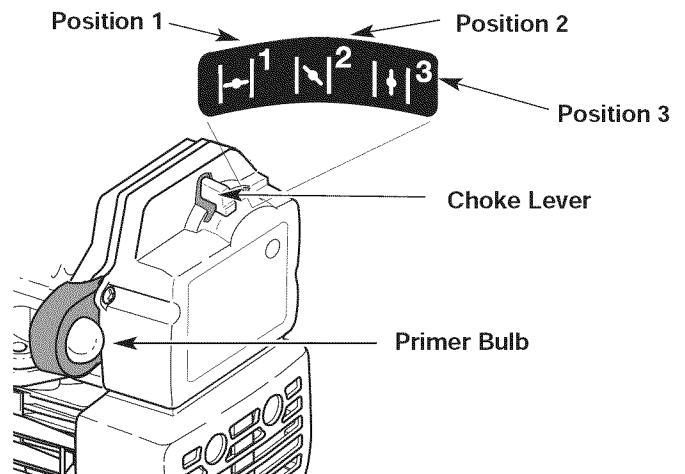

Fig. 7
3. Place the choke lever in Position 1 (Fig. 7).
4. Fully press and release the primer bulb 10 times, slowly. Some amount of **fuel should be visible in the primer bulb** and fuel lines (Fig. 7). If you can't see fuel in the bulb, press and release the bulb as many times as it takes before you can see fuel in it.